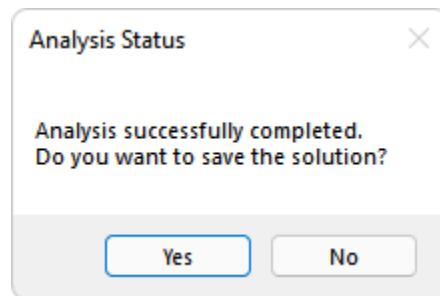

FIGURE 7-12
- Upon completion of the analysis process, the program prompts you to save the solution as shown in FIGURE 7-12.